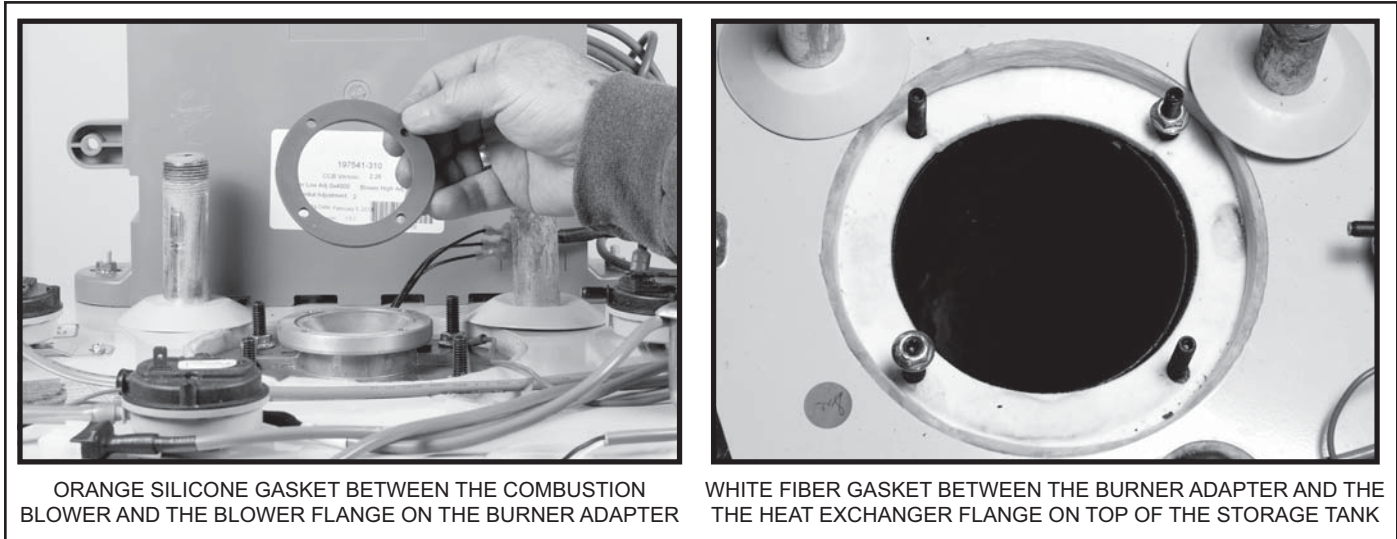

Figure 13
- All three of these connections have gaskets. The Combustion Blower gasket is an orange silicone gasket placed between the Combustion Blower outlet and the Blower Flange on top of the Burner Adapter. There is a white fiber gasket between the Burner Adapter and the Heat Exchanger Flange on top of the water heater. There is also a white fiber gasket between the Burner and the Burner Adapter. See the exploded view of the Combustion Blower & Burner Assembly on page 9 and Figure 13 below.